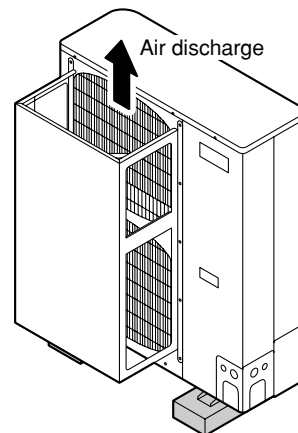

Fig. 2-10
- the air discharge outlet is facing a sidewalk and discharged hot air may annoy passers-by. Refer to Fig. 2-10.